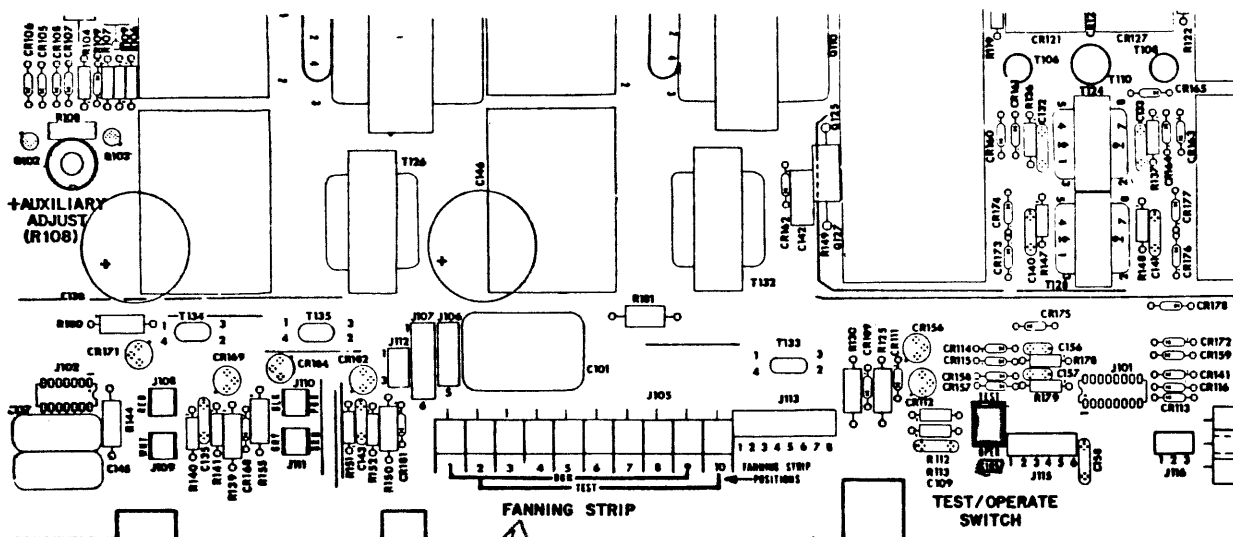

Figure 4-3. Power Board Controls
- e. Check the fanning strip located on the fan side of the main power board. This strip should be connected in the RUN position. The fanning strip is in the RUN position when its lugs are connected to terminals 1 through 9 of the associated terminal strip. Refer to figure 4-3.